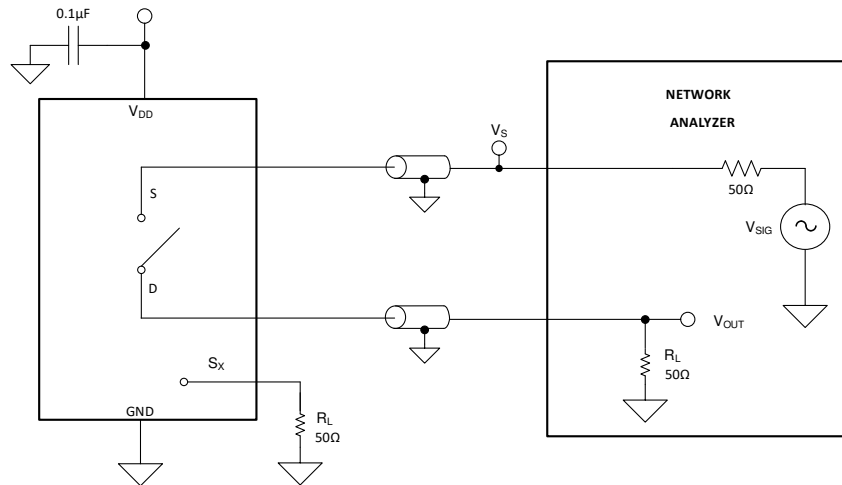

图 7-7. Off Isolation Measurement Setup
Off isolation is defined as the ratio of the signal at the drain pin (D) of the device when a signal is applied to the source pin (Sx) of an off-channel. 图 7-7 shows the setup used to measure, and the equation used to calculate off isolation.